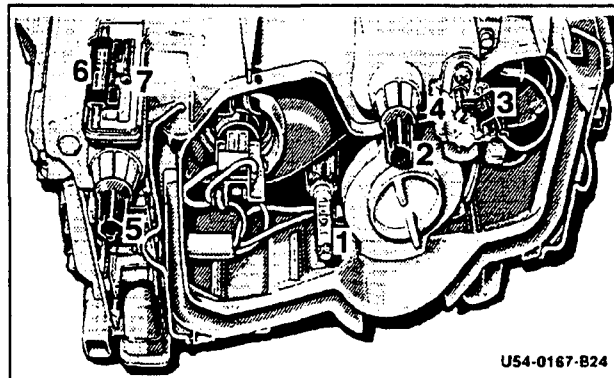

Figure 5 Model 202
Turn adjustment screw (2) until air bubble in the level (1) is centered on the "0" mark. Move scale (3) until pointer in sight glass (4) aligns with the number "0" on scale (Figure 5).